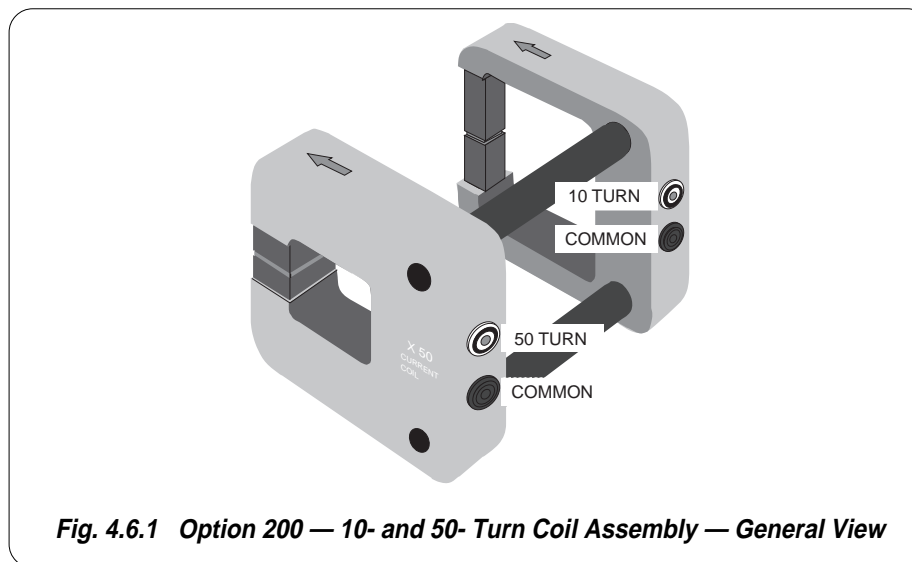

Fig. 4.6.1 Option 200 — 10- and 50- Turn Coil Assembly — General View
4.6.6.3 10- and 50-Turn Current Coils (Option 200) (Fig. 4.6.1)